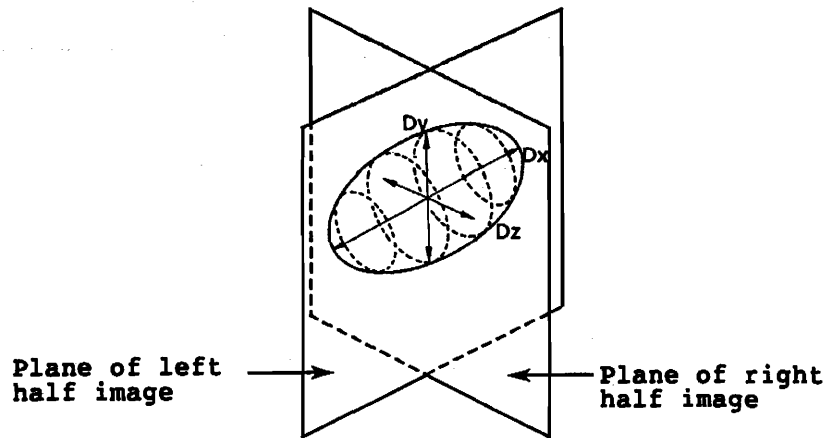

Fig. 9-3-7 Measuring Volume by BIPLANE Method
(3) BIPLANE Method
This method calculates the volume (V) by measuring three diameters DX, DY, and DZ in two orthogonal elliptic planes of the target region as illustrated in Fig. 9-3-7.